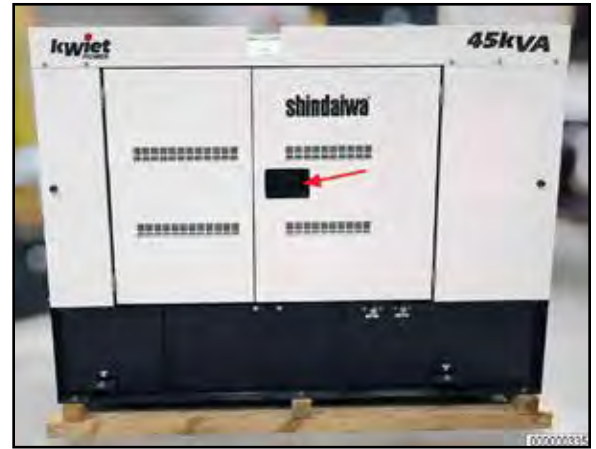

Figure 1
- Step 3: Release the Right Enclosure Rear Door Latch, then open both right enclosure doors. (Figure 1)